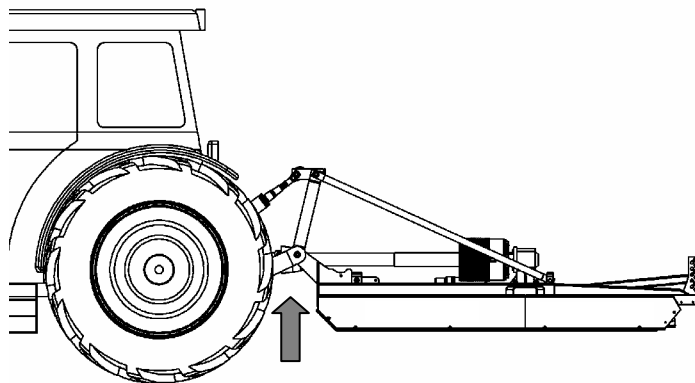

Figure 5
- Raise the machine off ground using tractor hydraulics (*Fig.5*).